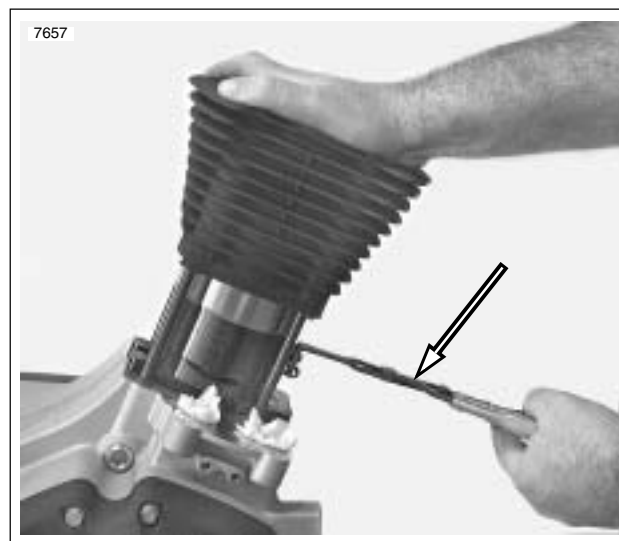

Figure 3-89. Compressing Piston Rings Using Piston Ring Compressor (Part No. HD-96333-51C)
8. See Figure 3-89. Compress the piston rings using PISTON RING COMPRESSOR (Part No. HD-96333-51C).